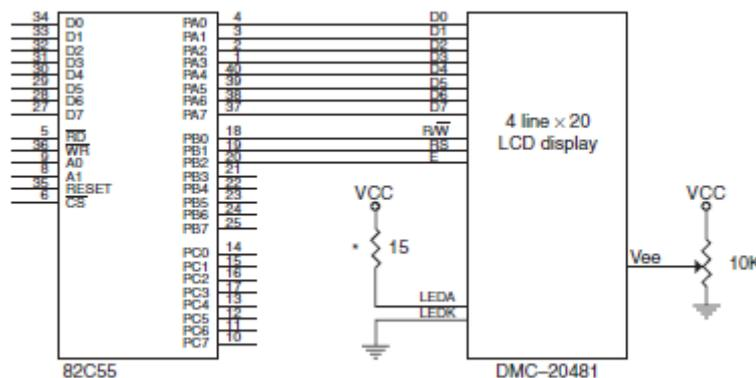

Figure 11-22: The DMC-20481 LCD display interfaced to the 82C55
- LCD display is a 4-line by 20-characters-per-line display that accepts ASCII code as input-data(Figure 11-22).